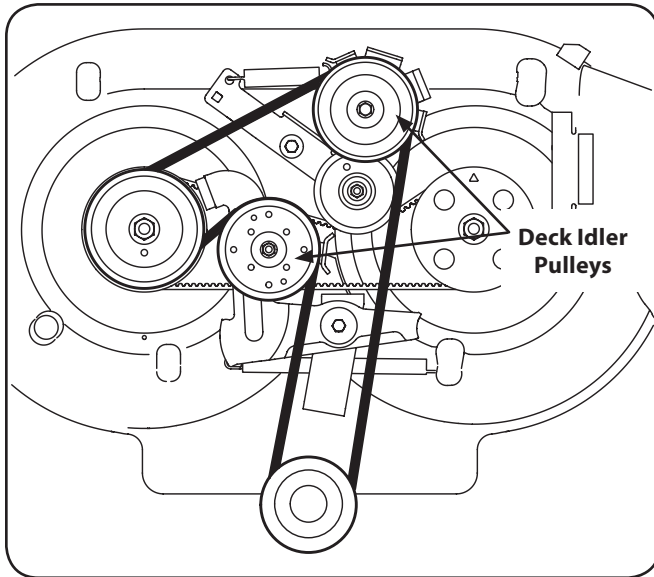

Figure 7-8
4. Loosen, but not remove, the nut and bolt which secures each deck idler pulley. See Figure 7-8.
6. Route the new belt as illustrated in Figure 7-8.